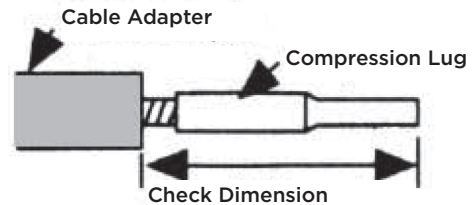

Fig. 7 - Check & Crimp
- a. Verify check dimension is less than 6 1/2" prior to crimping. (See figure 7) Refer to crimp chart packed with lug.